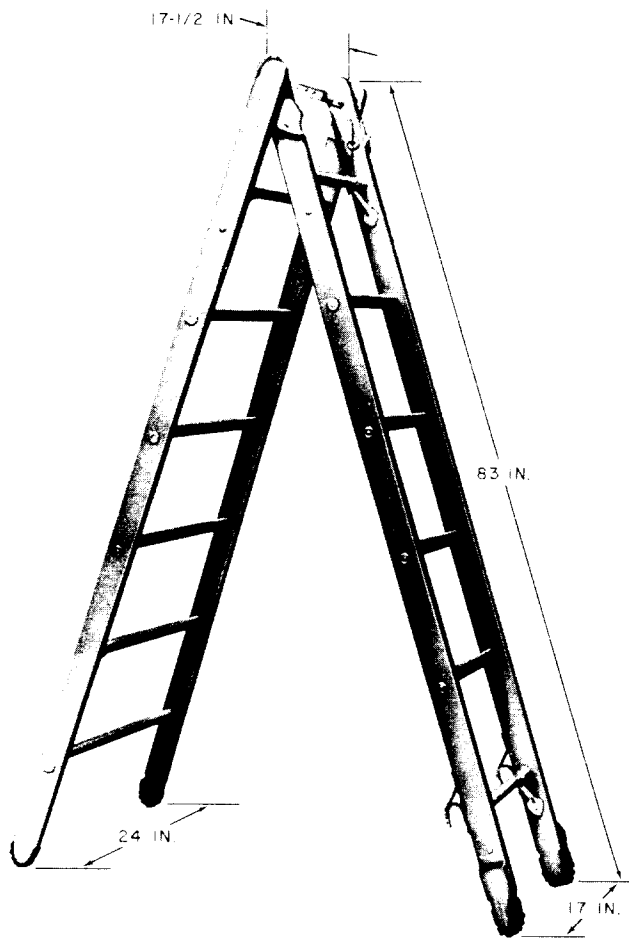

Fig. 1—C Combination Ladder (AT-8655)
3.01 The C combination ladder (Fig. 1) is made up of two sections (one wide, one narrow), each 7 feet long. The top of the narrower, extensible section is equipped with a pole rest brace which permits resting of the ladder, when extended, against a pole. Two hooks are provided on this section to engage it to the rungs of the wider section and secure the ladder in either a closed or extended position.